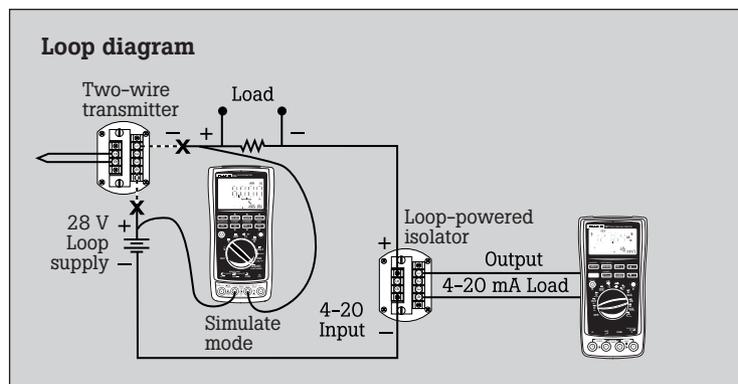

Figure 2
Fluke loop calibrators have a unique current simulation feature that, when connected to an external power source, allows you to precisely control current between 0 mA and 24 mA. When field checking a loop-powered isolator, the two-wire loop transmitter supplying signal current to the isolator for the loop may be removed and the calibrator connected in simulate mode to control loop current (Figure 2).
1. Disconnect the main loop transmitter and connect the Fluke 789 to the loop with the test leads plugged into the center or "Simulate" terminals of the calibrator (see Figure 2).
3. Place a Fluke 187 or equivalent multimeter (1  $\mu$ A resolution is ideal; 10  $\mu$ A is acceptable), set in the mA measurement mode, on the output side of the isolator to monitor output current (see Figure 2).